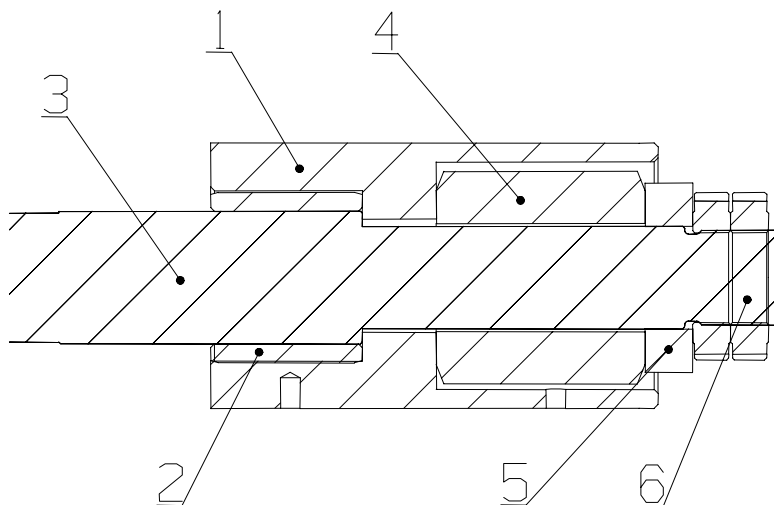

Fig 10.3(1) Dish spring fixed position
- b. Take off the carriage leader (code 3) through the base hole, then fix the cylinder (code 1) on the carriage leader (code 3). See fig 10.3(1). Keep the end surface close to another part.
- ① Screw the first nut down with hand, and then use a spanner rotate the nut for “n” loop (value of “n” as following)
- ② Screw the second nut (a locknut) down